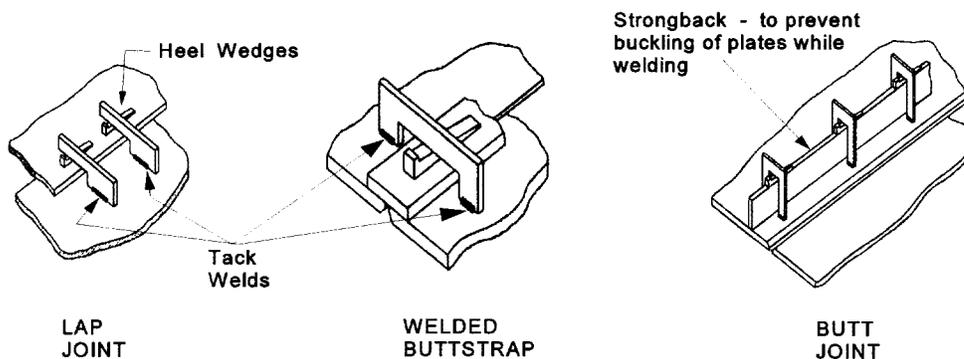

Figure 3-17. Methods of Securing Welded Structure
- a. Inspect the bulkhead for straightness. If the bulkhead is warped or twisted, straighten with a strongback. Use an angle or flat bar. If the bulkhead is bowed, make a cut in the plate. Use a strongback to flatten the bowed area and reweld the cut. See figure 3-17.